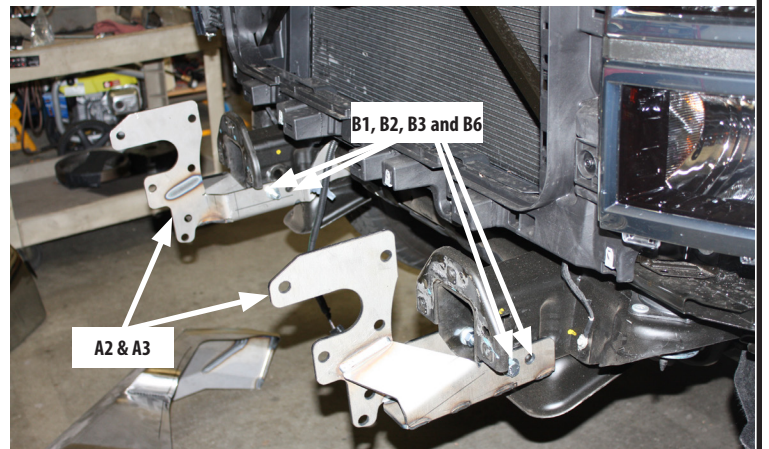

Figure 11
9. Install the two lower frame extensions(A2 and A3) to the frame rails of the vehicle using ½ inch bolts (B1), washers (B2), lock washers (B3) and nuts (B6) supplied in the hardware kit. See figures 11 and 12. Refer to exploded view on page 3.